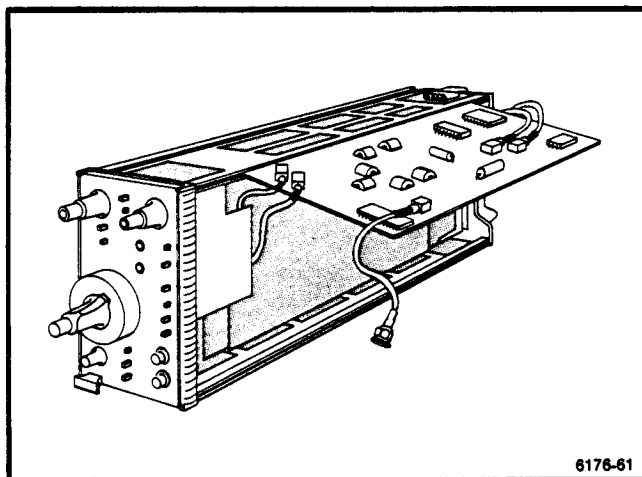

Figure 5-6. Positioning Trigger circuit board for access to internal adjustments.
4. Loosen the four screws holding the Trigger Board and lift the board so it can be supported by the top chassis panel (see Fig. 5-6).